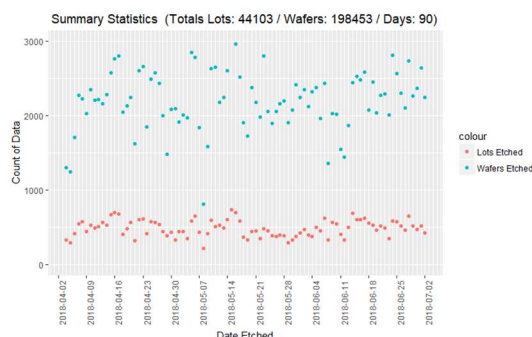

Figure 1: Downloaded Lot and Wafer Data
Tokyo Electron (TEL) collects and stores sensor data in the form of Tool Process Logs (PLOGs). Additionally TEL's Ingenio Server collects and summarizes the PLOGs. Customers decide to restrict or grant TEL access to this data on a case by case basis. A TEL high volume manufacturing customer has partnered with TTCA granting complete access to multiple microwave etch chambers. Automatic daily downloads of lot and wafer summaries (Figure 1), alarms, counters, chamber definitions with automated endpoint file collection filled 2.5TB. Auto alignment with 800K+ customer critical dimension (CD) wafer measurements auto fed machine learning algorithms such as principle component analysis and deep learning. This moved the analytics beyond human capability to the Desktop AI realm, methods beyond fault detection control that waferfabs utilize or competitors offer. 7 hours of analytic calculations created ranked signals (Figure 2), translated into high probability actions (Figure 3), vs. three months of traditional troubleshooting.